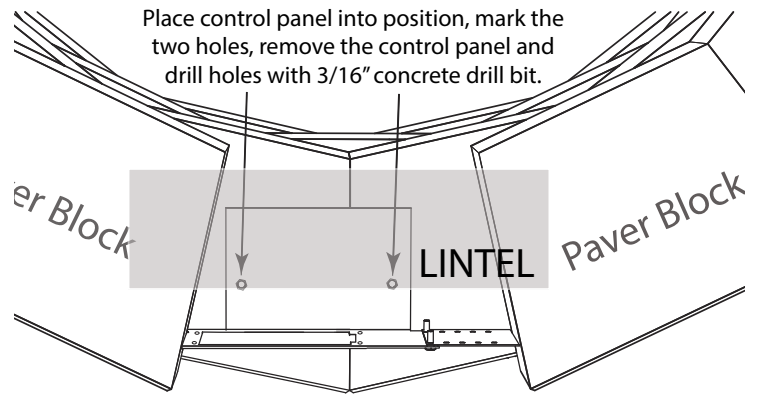

Fig. 4 Securing the control panel into the paver block. Lintel is shown in the gray shading.
Note: Use the lintel (supplied with kit) to support the paver patio blocks above control panel opening. The lintel simply lays on top of the paver as shown in Fig. 4.
STEP 3: After you have determined the location and measured the width to install the Paver Kit control panel mark the inside of the control panel as shown in Fig. 4.